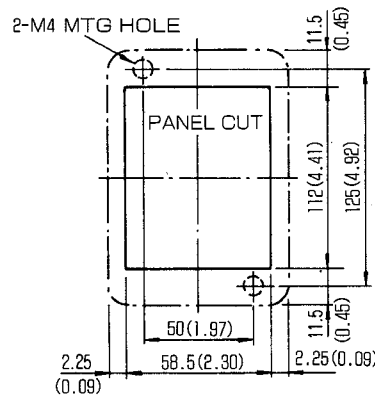

Fig. 5.19 Panel Cutting for Mounting the Digital Operator
- (1) Turn OFF main power and verify the inverter CHARGE indicator lamp goes OFF. (The indicator goes OFF about three minutes after power is turned OFF.)
- (2) Remove the faceplate. Remove the two screws that fasten the digital operator to the PC board frame. Remove the connection cable with the controller. (Store the cable for connecting the digital operator to the inverter again.)
- (3) Mount the adapter panel on the PC board frame with the two screws removed from the digital operator. Plug in the connection cable of the adapter panel to the connector (21CN) on the controller.
- (4) After connecting the adapter panel, mount the faceplate.
- (5) Plug in one connector of the extension cable to the relay connector on the adapter panel. Plug in the other connector to the digital operator.
- (6) Verify that cables are connected securely. Turn ON inverter power and confirm that the "POWER" indicator lamp on the adapter panel and the LEDs on the digital operators light.
- (7) To mount the digital operator on the control panel, refer to the panel cutting pattern shown in Fig. 5.19.
- (8) Weak signal current flows in the extension cable. Separate the cable from the inverter main power line and other power cables.